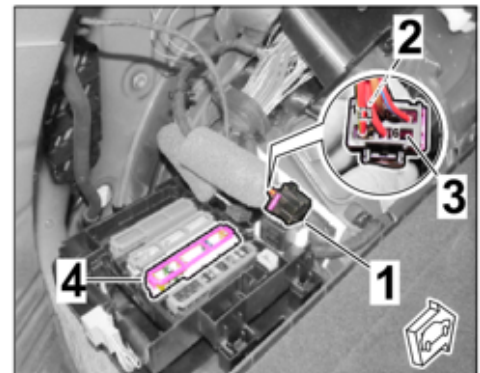

Figure 9
- 2.3 Check pin assignment in connector B on the vehicle side (6-pin; trailer hitch preparation ⇒ *Figure 9*).